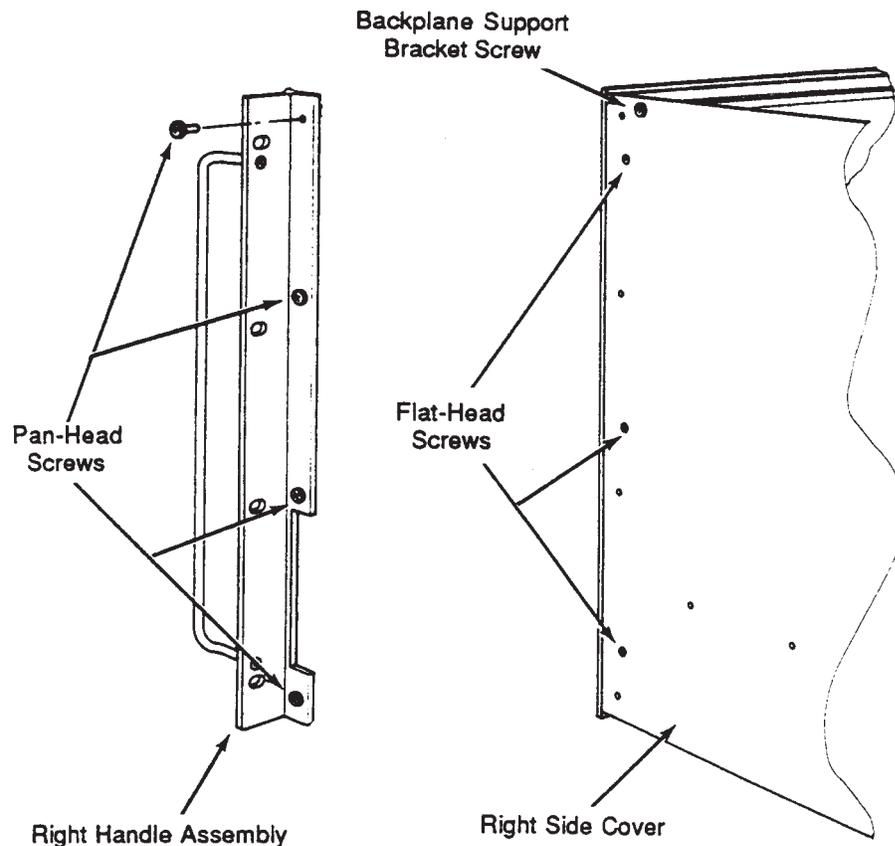

Figure 7-5
- B. Remove the four pan-head screws that secure the right and left handle mounting brackets to the side covers. Figure 7-5 shows a view of the right side.
The following steps outline the procedure for removing backplane jumpers. Also refer to Figures 7-5 through 7-7.